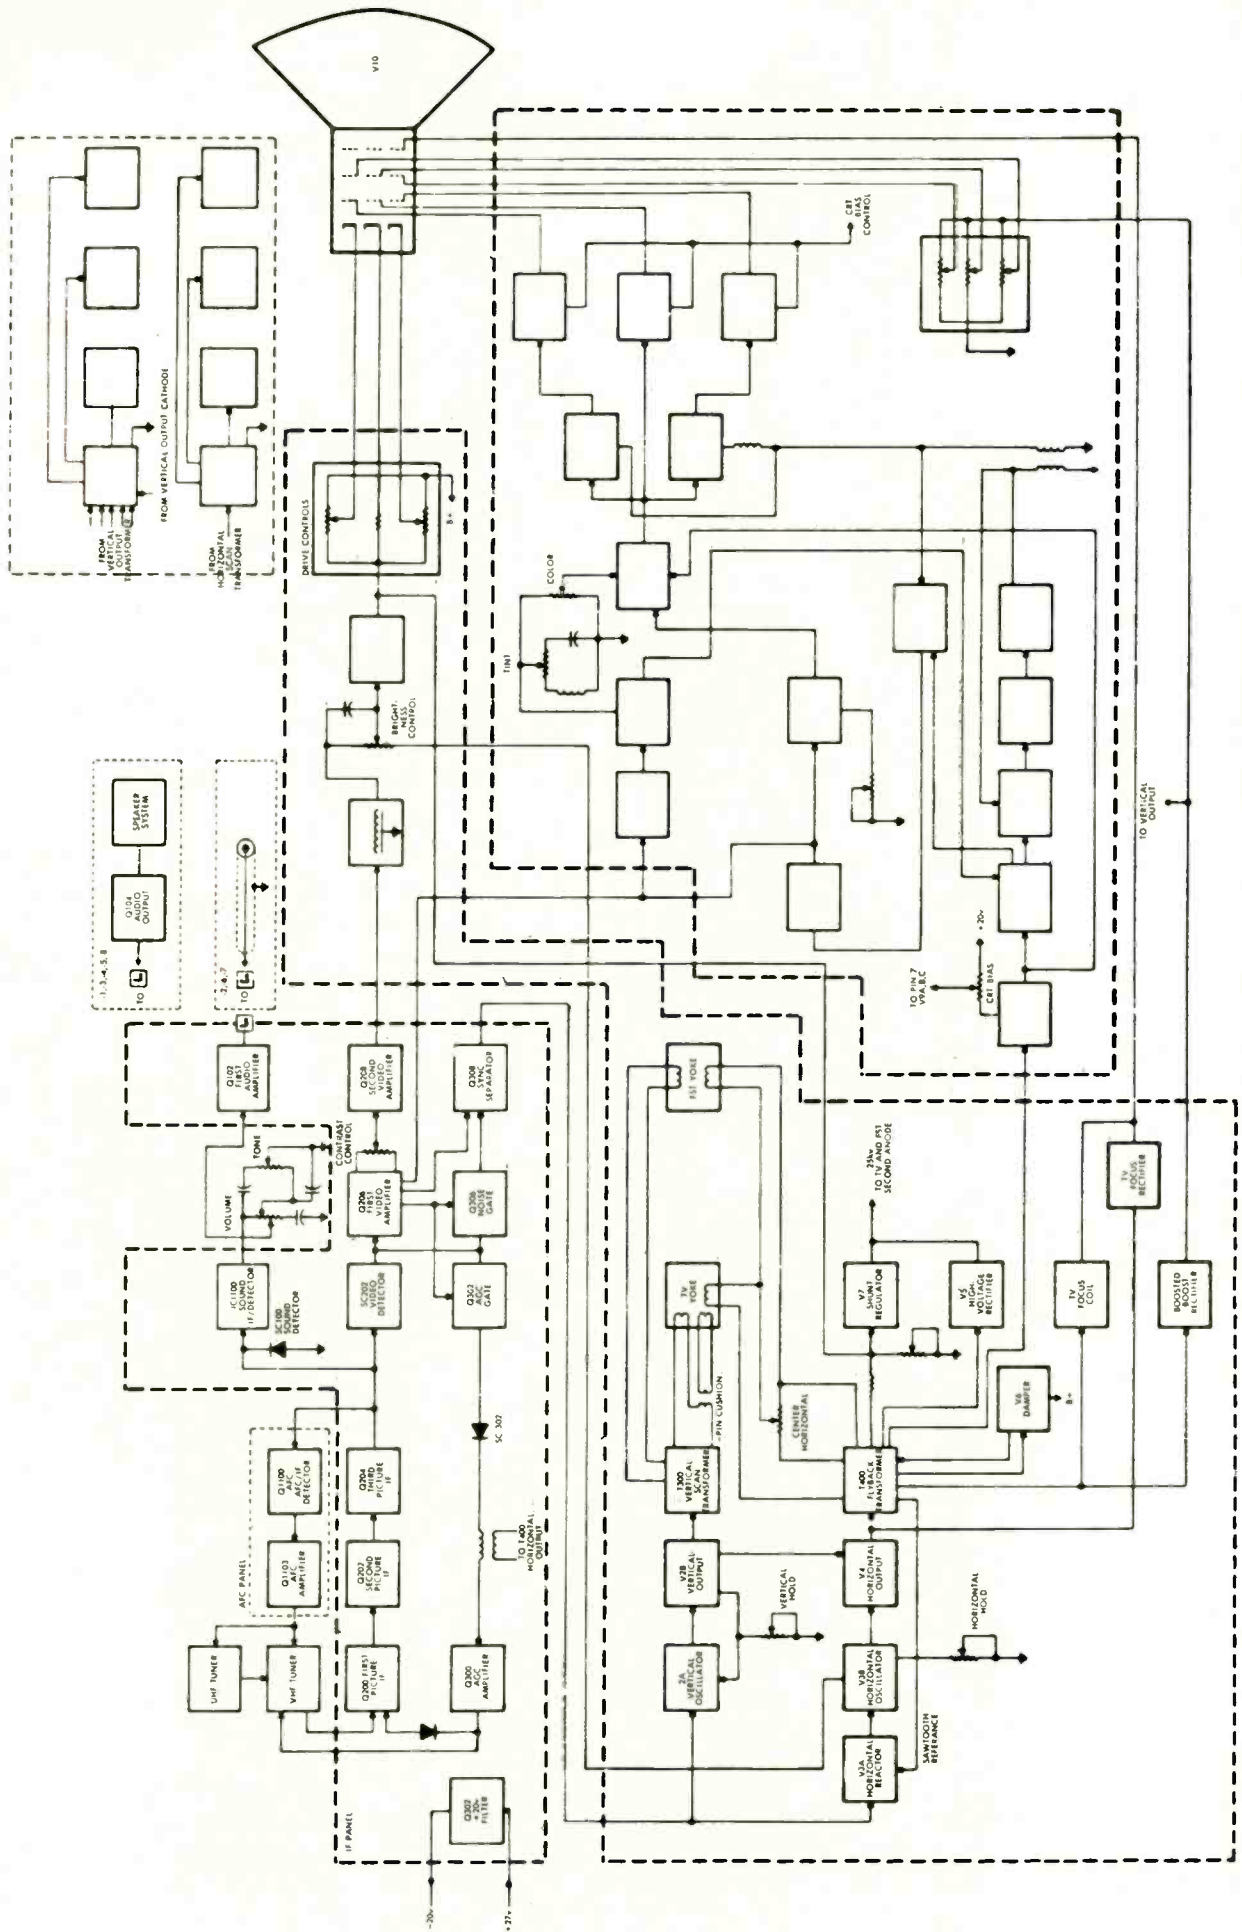

Fig. 1—Block diagram of Sylvania's D-12 "Gibraltar" chassis. The labeled portion contains those circuits generally found in a B/W-TV set.
■ A color-TV receiver has a few additional circuits that the normal B/W-TV receiver is lacking. This can be more clearly seen with the block diagram in Fig. 1. (To illustrate, a Sylvania D-12 "Gibraltar" chassis has been chosen, which contains 9 tubes, 23 transistors, 28 diodes and 1 integrated circuit. The VHF and UHF tuners also use solid-state components.) The labeled portion of this diagram corresponds to that required for a conventional B/W-TV set. It consists of the tuner section, vertical- and horizontal-sweep circuitry, the IF and audio sections, video output and picture tube. The power supplies are straightforward and almost identical for both color- and B/W-TV sets.
The output of the third picture IF stage (Fig. 1) is coupled through an IF transformer to the video detector diode, SC202. The 41.25MHz sound carrier is trapped out before
The composite video signal at the collector of transistor Q206 is coupled via the contrast control to the second video amplifier, Q208. Transistor Q208 amplifies the monochrome signal and ac couples it to the grid of the video output tube, V1 (the box shown to the right of the brightness control—Fig. 1).
The sound section (Fig. 1) employs a sound-detector diode (SC100), integrated-circuit IF/discriminator/sound, first audio amplifier (Q102) and audio output amplifier (Q104).